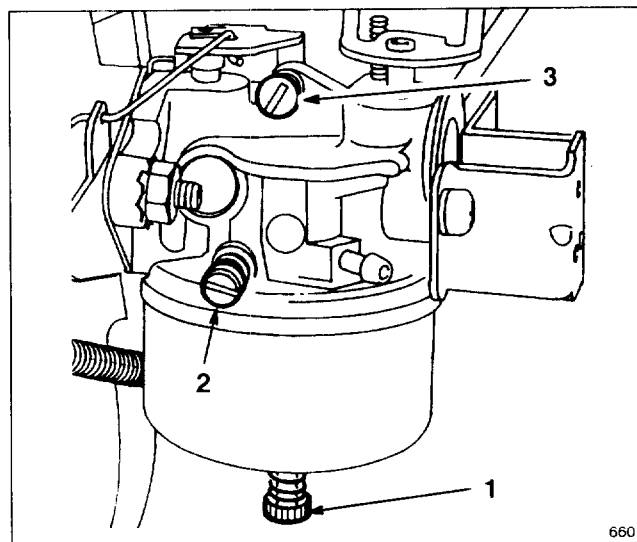

Figure 29
2. Power Adjusting Screw (Fig. 29)—Close screw by gently rotating it clockwise until a slight seating resistance is felt. Next, rotate power adjusting screw one full turn—360°—counterclockwise.
3. Idle Mixture Screw (Fig. 29)—Close screw by gently rotating it clockwise until a slight seating resistance is felt. Next, rotate idle mixture screw 1–1/2 full turns counterclockwise.
5. Rotate power adjusting screw (Fig. 29) clockwise—in—1/8 turn at a time until engine misses because of a lean gasoline mixture. Then rotate screw counterclockwise—out—1/8 turn at a time until engine runs unevenly because of a rich gasoline mixture. Next, rotate power adjusting screw clockwise, back to the midpoint between the rich and lean settings, so engine runs smoothly.
7. Rotate idle mixture screw (Fig. 29) clockwise—in—1/8 turn at a time until engine begins to miss because of a lean mixture. Then rotate screw counterclockwise—out—1/8 turn at a time until engine runs unevenly because of rich mixture. Next, rotate idle mixture screw clockwise, back to the mid—point between rich and lean settings.
8. Again, rotate idle speed screw (Fig. 29) until engine idles at 1750 rpm.